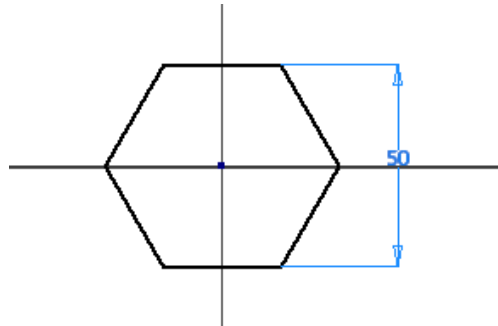

Figure 17-37 Sketch for creating the Hexagonal shaft
4. Create a hexagon on the XZ plane, as shown in Figure 17-37.